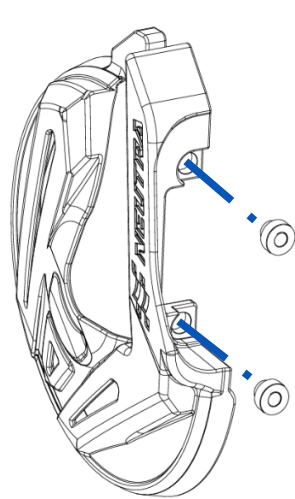
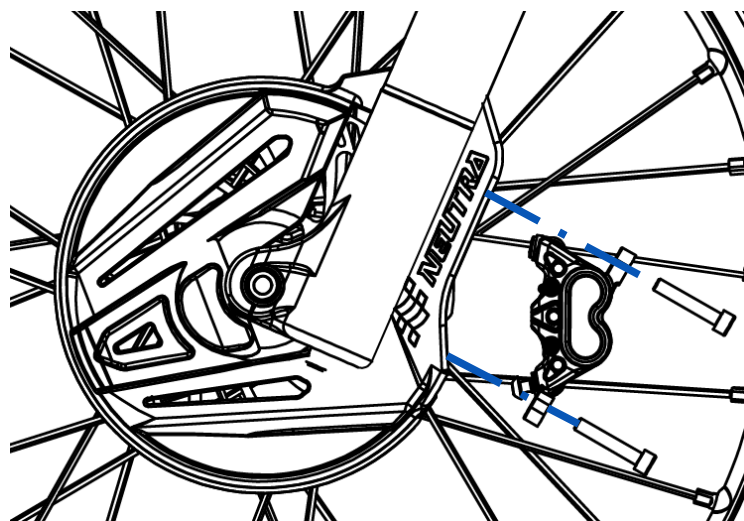

Fig. 12a
Fig. 12b
10. Install the front disc protector together with the spacers (Fig. 12a). Then position the brake caliper and align the two M6 Allen cylindrical head bolts (Fig. 12b). Tighten the front brake caliper mounting bolts to a torque of 1.2 kgf·m.